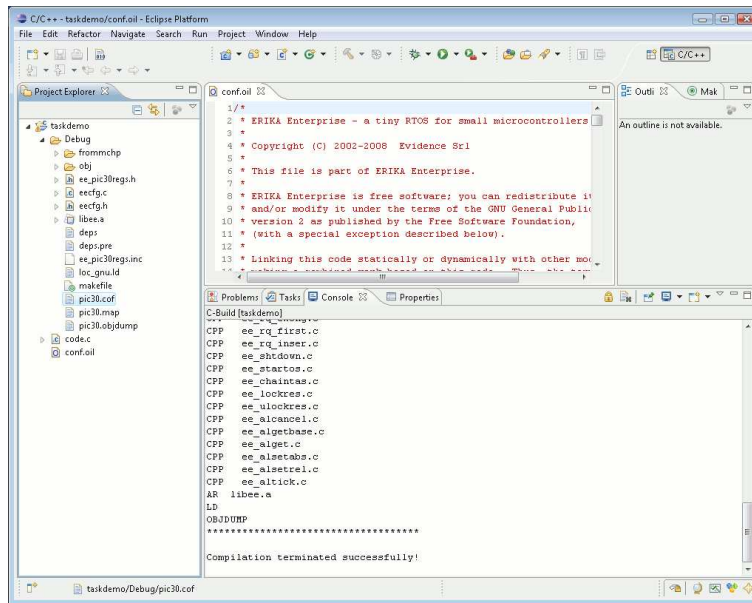

Figure 5.7: The output file is ready to be programmed on the target board.
7. At the end of the compiling process you will be able to find a file named 'pic30.cof' inside the Debug directory inside the project, as shown in Figure 5.7.